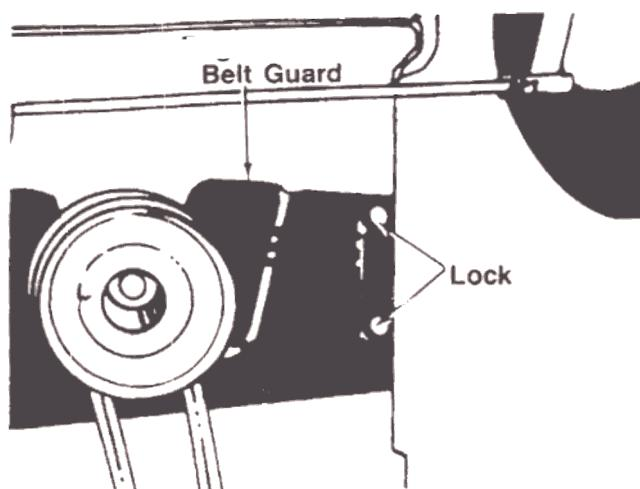

FIGURE 22.
- Remove the two bolts, lock washers and nuts on each side of the frame which hold the engine pulley belt guard to the frame. See figure 22.